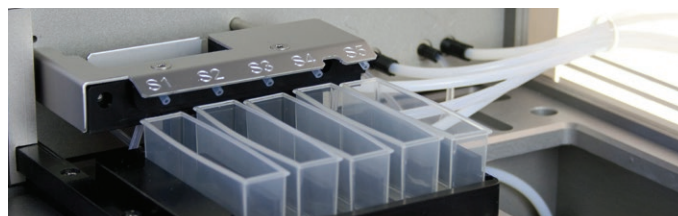

Figure 38. The solvent feeder in position.
9. Put the solvent rack back in place and pull out the solvent feeder; see Figure 38.